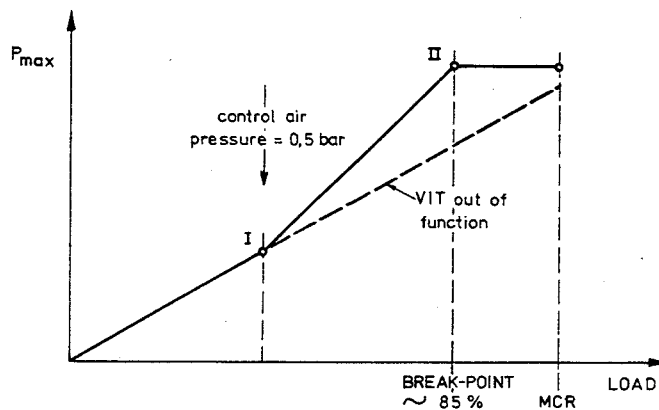

Fig. 4 - P_{max} VARIATION (schematic)
When the engine is then run-up towards approx. 85% MCR, the sensor pick-up (E) is further activated, thus gradually increasing the control pressure. This causes the position servos to alter the VIT-index and thereby advance the injection timing as the load increases, thus tracing line I-II in Fig. 4.